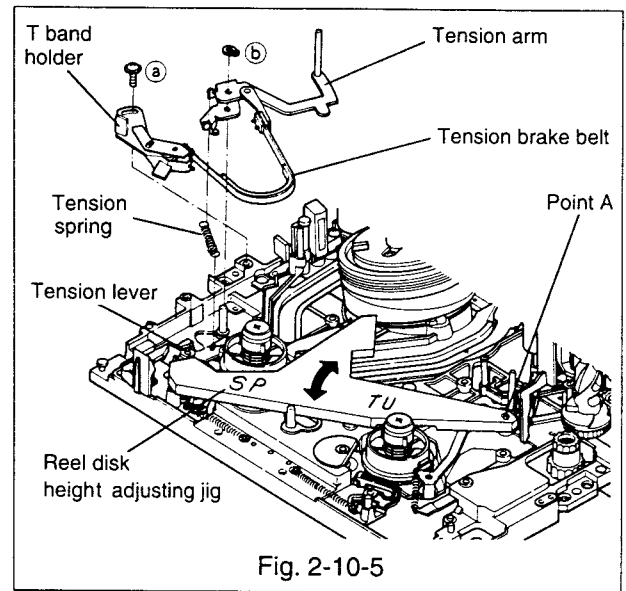

Fig. 2-10-5
- F. Assemble the tension arm to the shaft and secure the arm with the grip ring(b).(Refer to Fig. 2-10-5.)
- G. Fasten the tension spring to the tension arm and the tension lever.(Refer to Fig. 2-10-5.)
- H. Assemble the T band holder to the main plate with care not to score or dirty the tension brake belt, and secure the holder with the screw(a) lightly.(Refer to Fig. 2-10-5.)